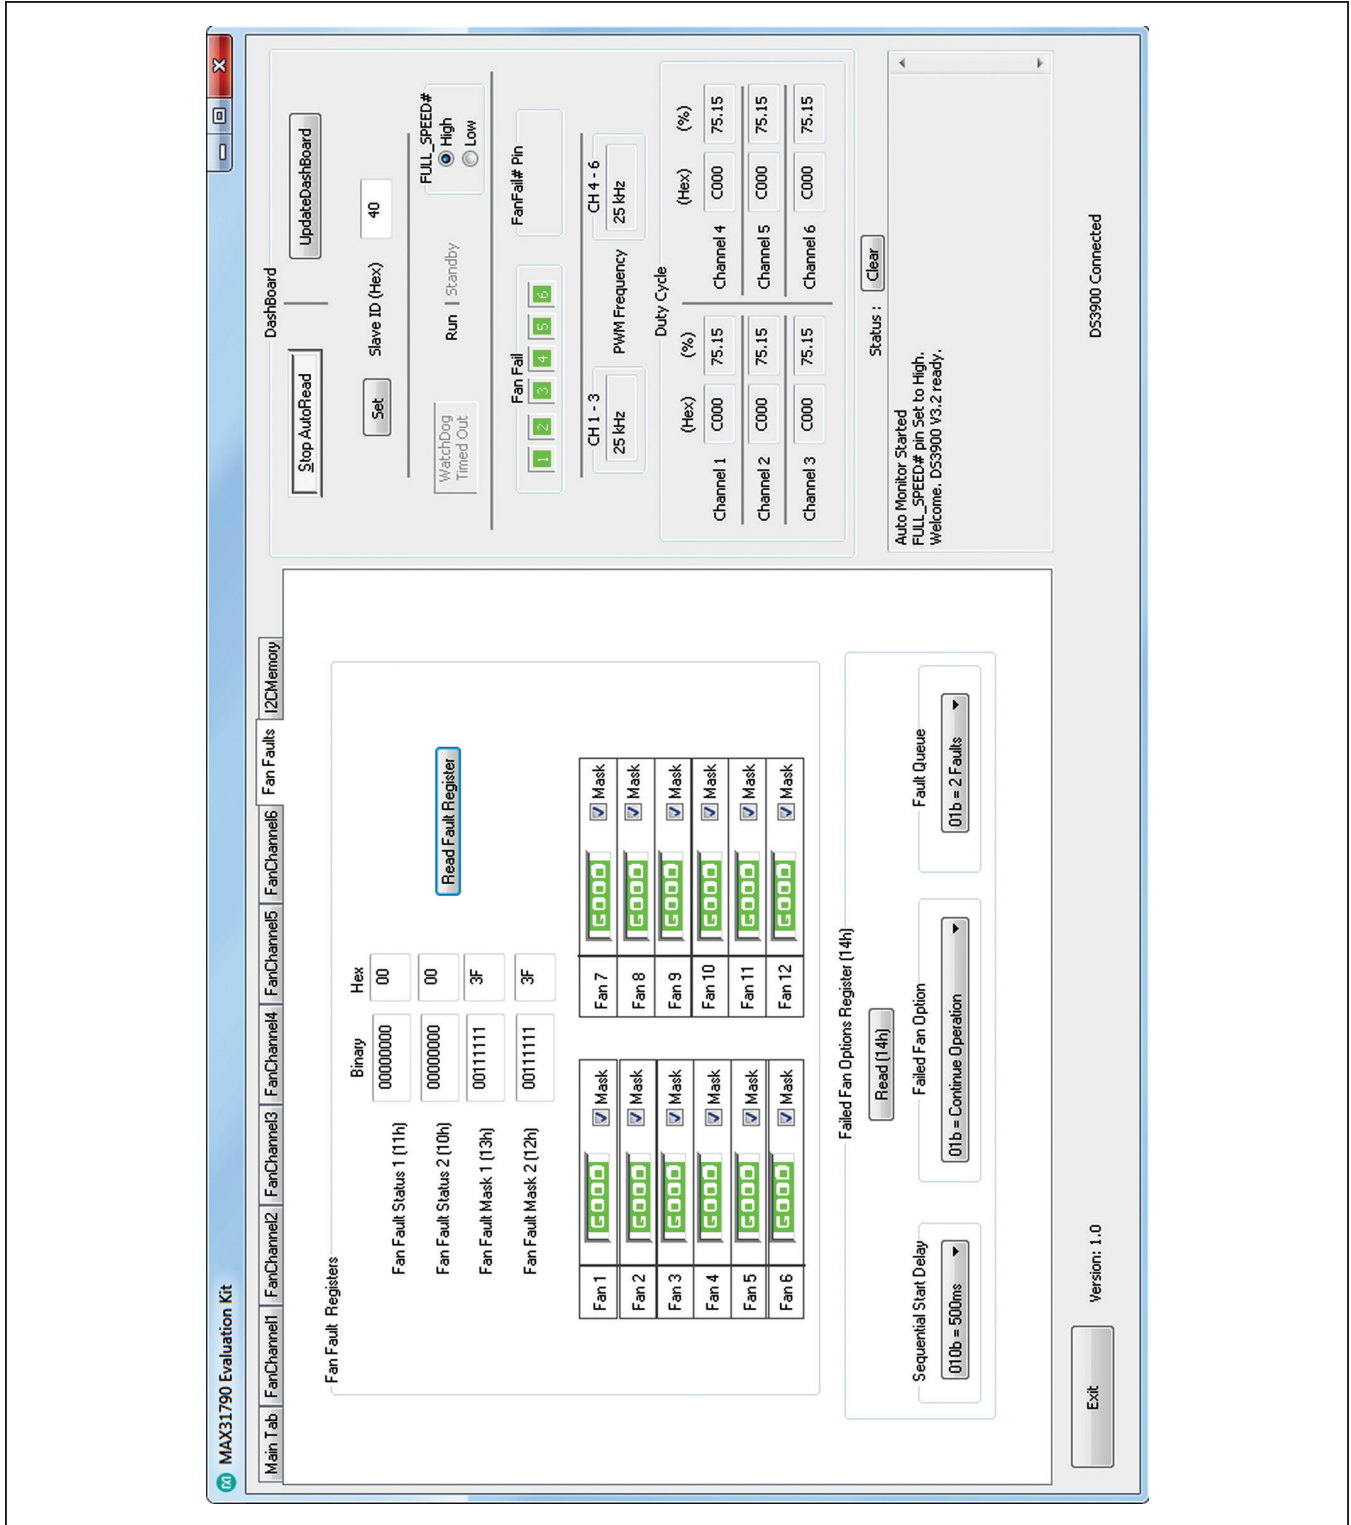

Figure 3. MAX31790 EV Kit GUI (Fan Faults Tab)
- **Fan Faults Tab** (Figure 3):